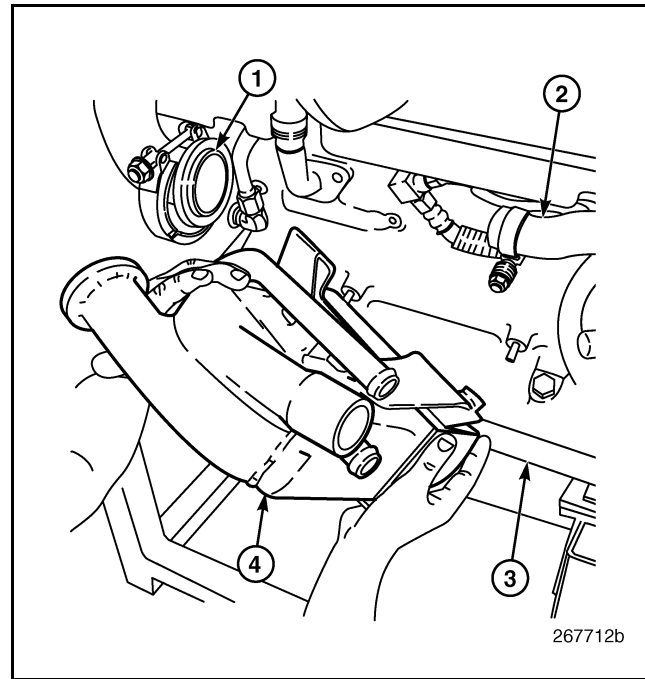

Figure 496 — EGR Cooler Removal
- Remove the four retaining nuts, two at each side, attaching the cooler assembly to the cylinder block and remove the assembly (Figure 496). Inspect the cooler assembly for damage and test for leaks as required.
1. Place the EGR cooler assembly in position at the right side of the cylinder block (Figure 496). Install the four retaining nuts and tighten to specification.